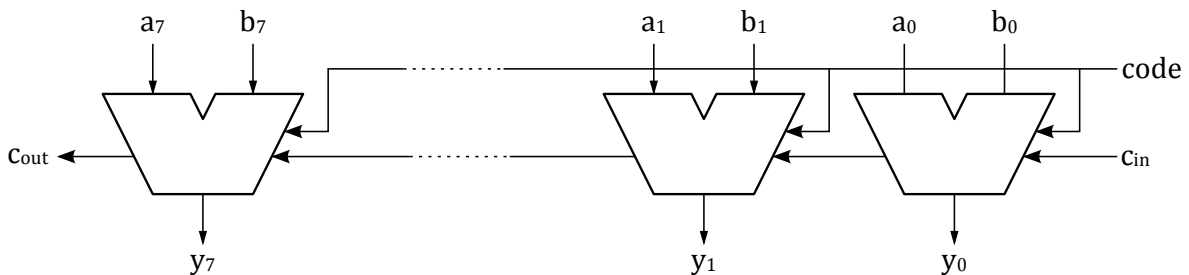

Figure 2 - Iterative Arithmetic Unit
The Figure 2 shows the iterative circuit of an Arithmetic Unit (AU). Also this circuit consists of eight 1-bit units connected to create a 8-bit AU. The logic circuit will be realised with multiplexers, which represent a truth table.
Write the truth table of the iterative logic block **ALU/AU1** of Figure 2 for each of the following operations on integers:
Implement the circuit of the AU of Figure 2 to cover all functionalities mentioned before. Some circuit elements are already given in the block **ALU/AU8**.